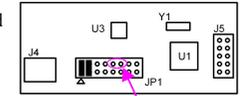

Fig.5 Short briefly to enter Bootloader
- A. Set jumper as in Fig. 5
Set jumpers as Fig.5 and install R15 & R16 will allow the development board have USB feature. This is similar to Arduino boards.